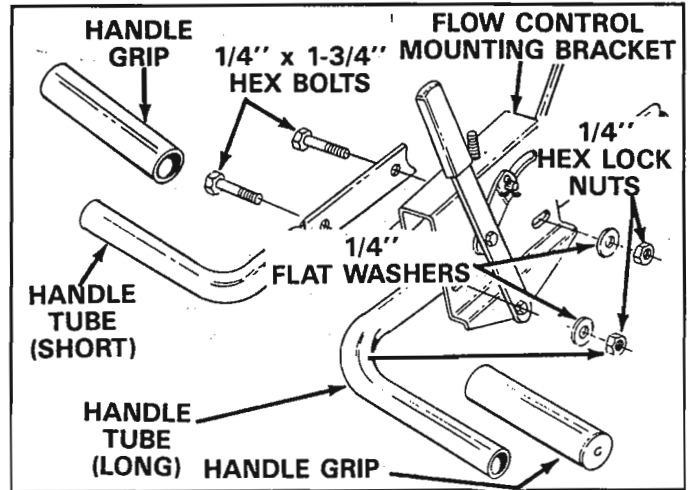

FIGURE 14
- Place handle grip on each handle tube. See figure 14.